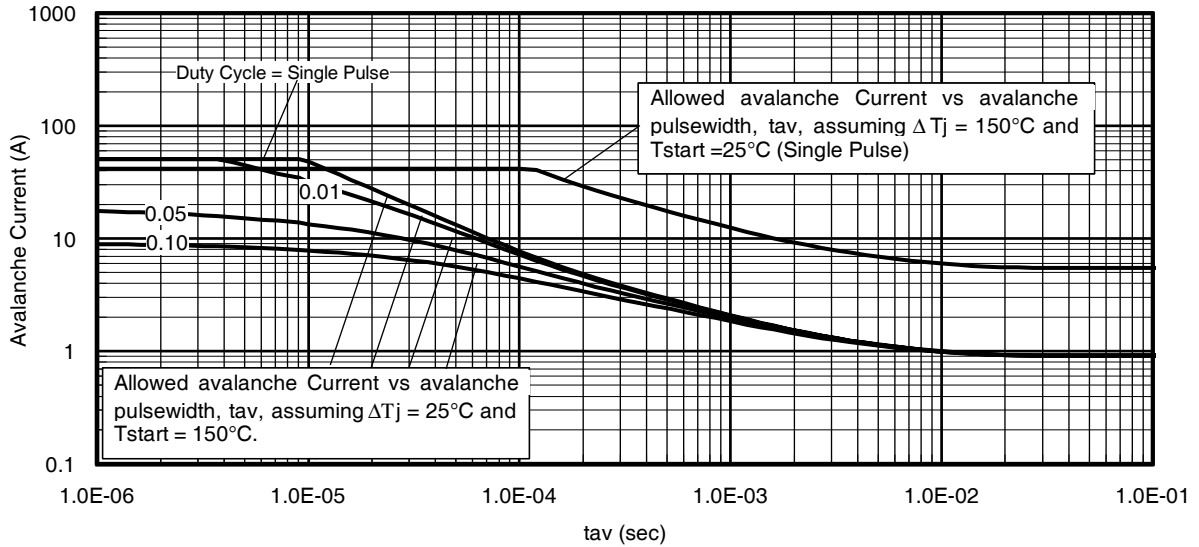

Fig 15. Typical Avalanche Current vs.Pulsewidth
Notes on Repetitive Avalanche Curves , Figures 15, 16:
7. ΔT = Allowable rise in junction temperature, not to exceed $T_{j\text{max}}$ (assumed as 25°C in Figure 15, 16).